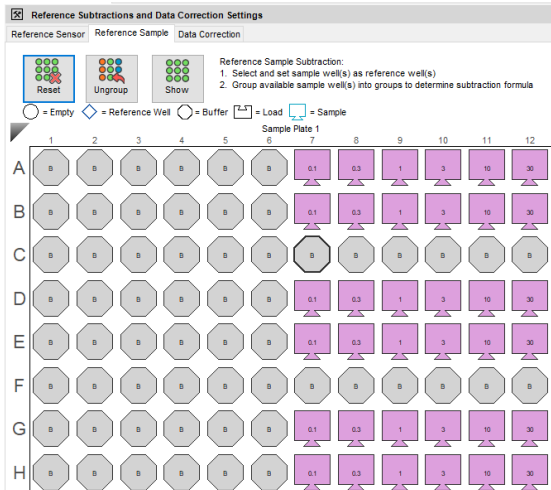

Figure 4-49: Selecting a Reference Sample Well
1. Select the sample/load well(s) you want to use as your reference sample well(s) to correct for baseline drift. This should be a well that contained only buffer (Figure 4-49). In this example only one zero analyte well was run in the experiment.